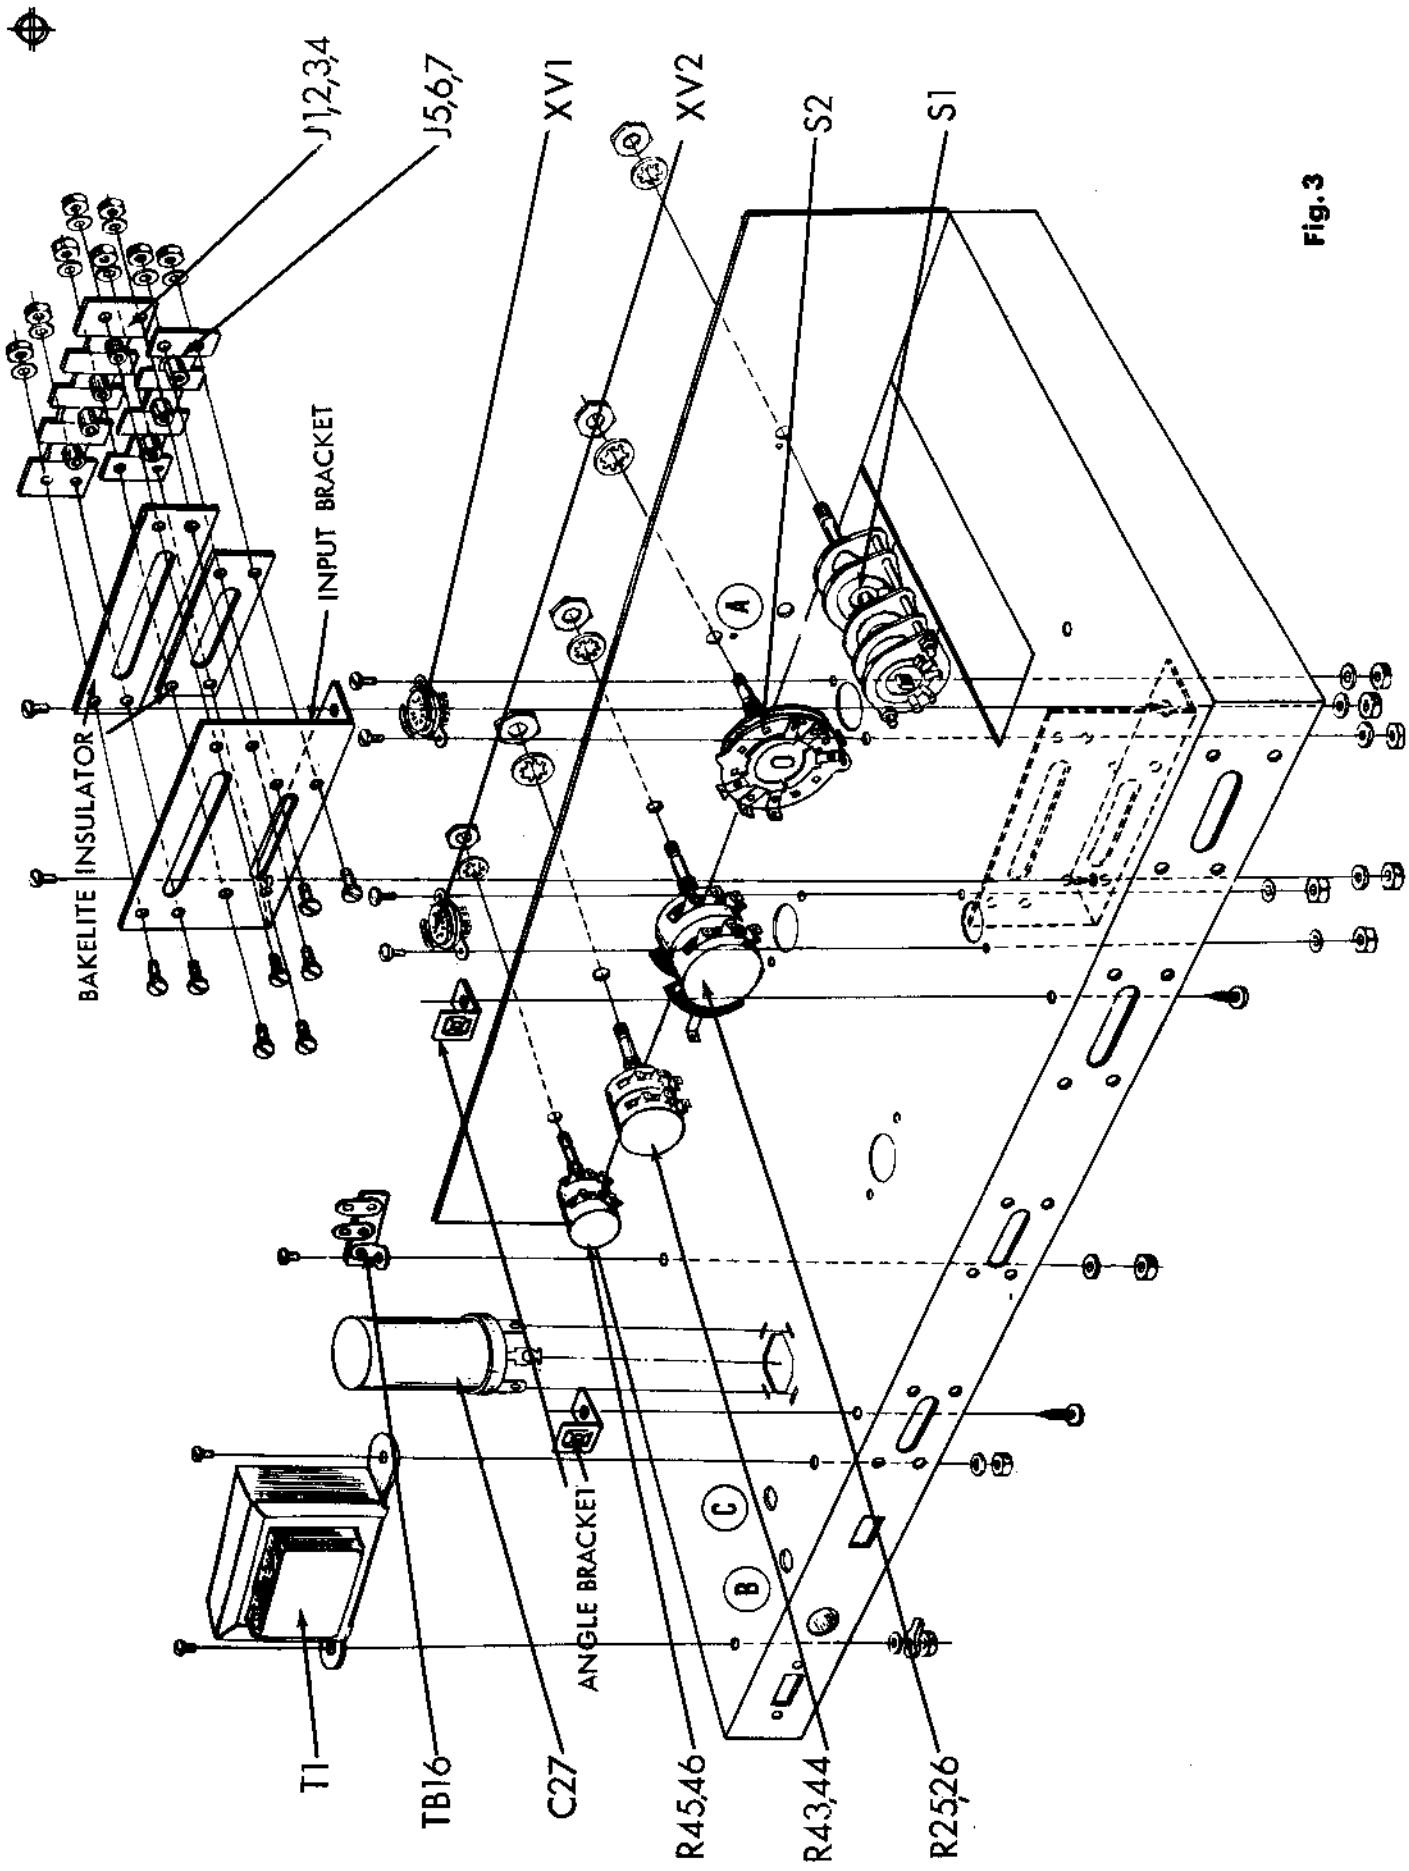
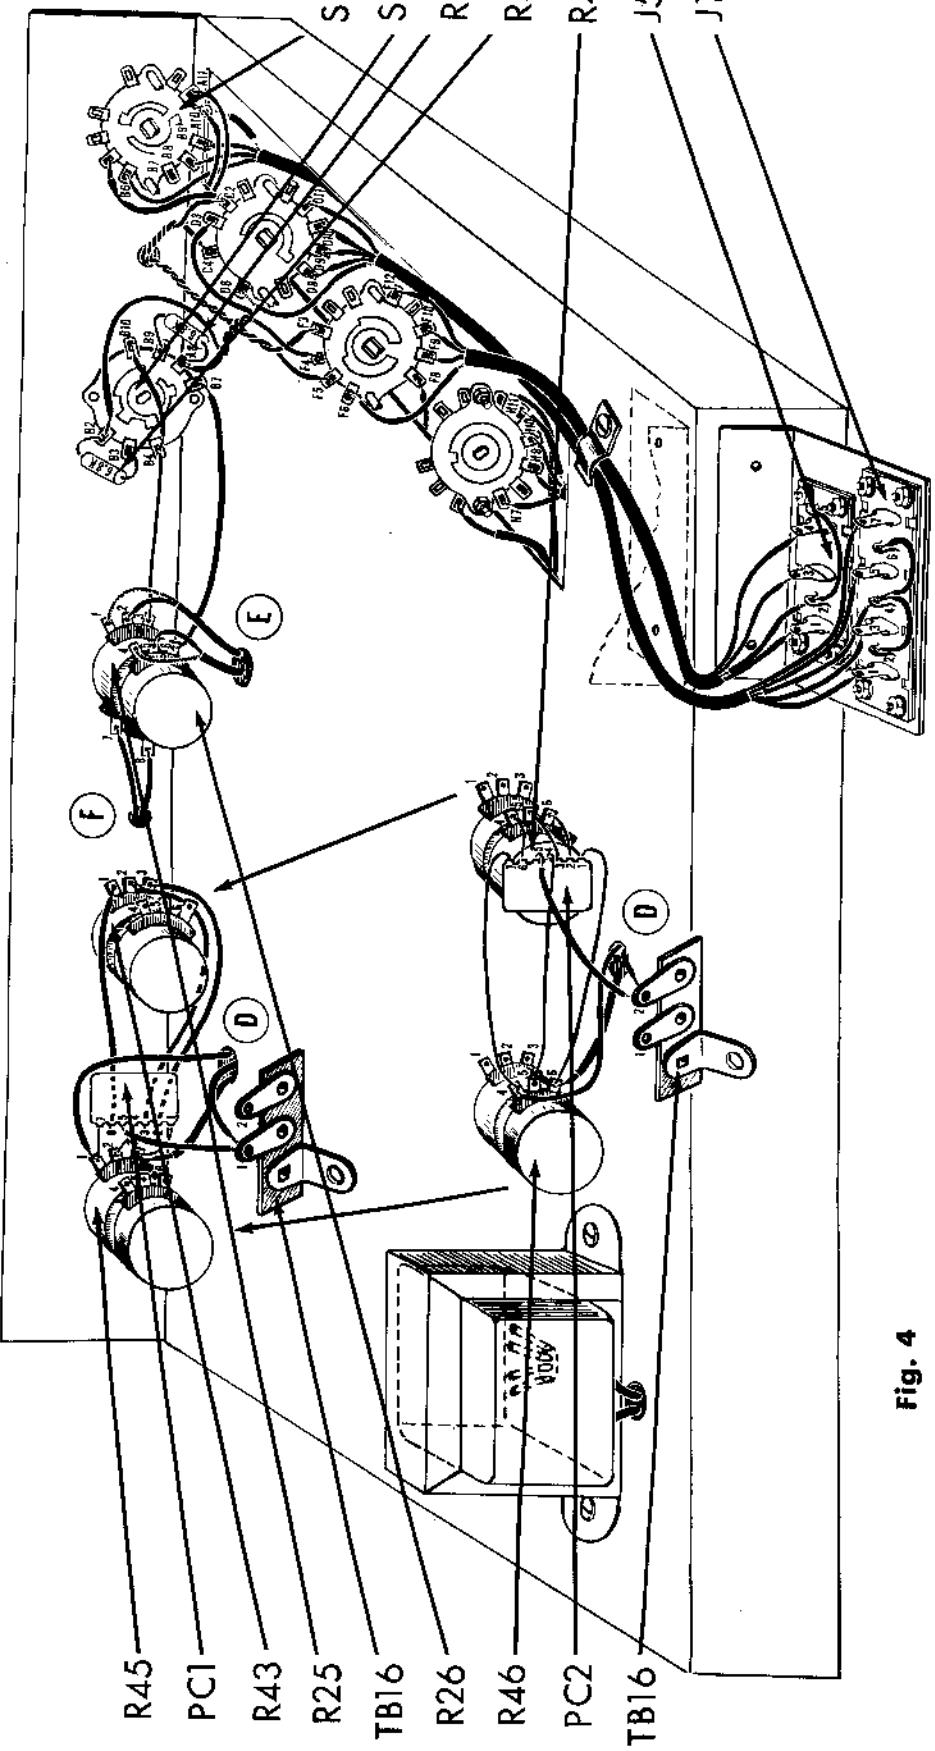

Fig. 3
Fig. 4
1. ( ) Fig. 3. Mount the four wafer input selector switch, S1, as shown (see figure 4). Push all leads except the twisted violet-white pair, the blue-green pair and the yellow-grey pair, to the bottom of the chassis, through the rectangular hole below the switch. Push the twisted white-violet pair and the twisted green-blue pair through hole "A" in the front apron of the chassis. Use a 3/8 lockwasher and a 3/8 hex nut.
2. ( ) Fig. 3. Mount the mode switch, S2, as shown (see figure 4). Use one 3/8 lockwasher and one 3/8 hex nut.
3. ( ) Fig. 3. Mount the concentric level control pot (with center tap lug stock # 18053) R25, 26 as shown. Use one 3/8 lockwasher and one 3/8 hex nut.
4. ( ) Fig. 3. Mount the concentric bass control pot (stock # 18054) R43, 44 as shown. Use one 3/8 lockwasher and one 3/8 hex nut.
5. ( ) Fig. 3. Mount the concentric treble control pot (stock # 18052) R45, 46 as shown. Use one 3/8 lockwasher and one 3/8 hex nut.
6. ( ) Fig. 3. Mount the input bracket as shown. Use two #6-32 screws, two #6 lockwashers and two #6-32 hex nuts.
7. ( ) Fig. 3. Mount the four input jack strips, J1, 2, 3, 4 and the three input jack strips, J5, 6, 7 as shown on the input bracket. Use four #6-32 screws, four #6 lockwashers and two #4-40 hex nuts.
8. ( ) Fig. 3. Mount the electrolytic can capacitor, C27, as shown. Note half moon, square and triangle near the lugs to determine the direction for mounting (figure 6). Insert the mounting tabs into the slots in the chassis and twist the tabs somewhat less than a quarter turn. DO NOT twist the tabs excessively or they will shear off. Solder any one of the tabs to the chassis at its slot.
9. ( ) Fig. 3. Mount the two angle brackets at the rear of the chassis as shown. Use one #8 P.K. - type Z screw for each.
10. ( ) Fig. 3. On the power transformer, T1, cut the two black leads, the two yellow leads and the red-yellow leads to  $3\frac{1}{2}$ ". Cut both red leads to  $3\frac{1}{2}$ ". Push both black leads through hole "B" and all the remaining leads through hole "C". Mount the transformer as shown, using two #6-32 screws and two #6-32 hex nuts. Under one of the hex nuts, use a #6 lockwasher. Under the second hex nut, use a #6 ground lug.
11. ( ) Fig. 3. Mount the two post right terminal strip, TB16/ as shown. Use one #6-32 screw, one #6 lockwasher and one #6-32 hex nut.
12. ( ) Fig. 3. Mount the two nine pin miniature tube sockets with shield support, XV1 and XV2 as shown. See figure 6 for orientation. Use two #4-40 screws, two #4 lockwashers and two #4-40 hex nuts.
✓ 1. Fig. 4. Run the three conductor shielded cable (previously connected to wafer "F" on input selector switch S1) along the chassis as shown under the cable clamp. Connect the red lead to J5, 6, 7-3 (S1), the orange lead to J5, 6, 7-4 (S1), the spaghetti covered shield strands to J5, 6, 7-2 (Q1) and the brown lead to J5, 6, 7-1 (S1). Note that the input bracket is shown bent out, away from the chassis to better show the connections in the drawing. The bracket actually remains mounted vertically on the chassis and is not removed for this or any of the following steps.
✓ 4. Fig. 4. Connect a 1" piece of black wire from J1, 2, 3, 4-4 (Q1) to J1, 2, 3, 4-6 (S1).
✓ 5. Fig. 4. Run the four conductor shielded cable (previously connected to wafer "D" on S1) along the chassis as shown under the cable clamp. Connect the spaghetti covered shield strands to J1, 2, 3, 4-4 (S3), the red lead to J1, 2, 3, 4-3 (S3), the orange lead to J1, 2, 3, 4-5 (S3), the brown lead to J1, 2, 3, 4-1 (S3) and the yellow lead to J1, 2, 3, 4-7 (S3).
✓ 6. Fig. 4. Cut all leads on two 6.8KΩ (blue, grey, red, silver) resistors, R57 and R58, to 1/2". Connect R57 from S2B-2 (Q) to S2B-3 (S1) and R58 from S2B-9 (S1) to S2A-8 (Q).
✓ 7. Fig. 4. Connect a 3/4" piece of grey wire from S2B-10 (S1) to S2B-4 (Q).
- ✓ 8. (X) Fig. 4. Connect a 1 1/2" piece of grey wire from S2B-4 (S1) to R25-3 (S1).
✓ 9. (X) Fig. 4. Connect a 2 1/2" piece of yellow wire from S2B-7 (S1) to R26-6 (S1).
✓ 10. (X) Fig. 4. A twisted yellow and grey pair of leads has previously been connected to S1. Connect the other end of the yellow lead to S2A-8 (S2) and the other end of the grey lead to S2B-2 (S2).
✓ 11. (X) Fig. 4. On one end of a 7" piece of single conductor shielded wire, strip the outer insulation back 1 1/2". Twist the shield strands together. Strip the insulation back 1/4" on the inner conductor and connect to R25-2 (S1). Connect the twisted shield strands to R25-1 (S1). On the other end of the same piece of shielded wire, strip the outer insulation back 3/4". Twist the shield strands together and cover with a 1/2" piece of thick spaghetti. Strip the insulation back 1/4" on the inner conductor. Push this end through hole "E" to bottom of the chassis.
✓ 12. (X) Fig. 4. On one end of a 4" piece of single conductor shielded wire, strip the outer insulation back 1 1/2". Twist the shield strands together. Strip the insulation back 1/4" on the inner conductor and connect to R26-5 (S2). Connect the twisted shield strands to R26-4 (S2). On the other end of the same piece of shielded wire, strip the outer insulation back 3/4". Twist the shield strands together and cover with a 1/2" piece of thick spaghetti. Strip the insulation back 1/4" on the inner conductor. Push this end through hole "E" to the bottom of the chassis.
✓ 13. (X) Fig. 4. Strip the outer insulation back 1/2" on one end of an 8"
- piece of single conductor shielded cable. Twist the shield strands together and cut off. Strip the inner insulation back 1/4". Connect this end of R45-3 (Q). On the other end of the same piece of cable, strip the outer insulation back 1/2". Twist the shield strands together. Strip the inner insulation back 1/4". Push this end of the cable through hole "D" to the bottom of the chassis.
✓ 14. (X) Fig. 4. Connect one end of a 3" piece of purple wire to R45-1 (Q).
✓ 15. (X) Fig. 4. Connect one end of a 2 1/2" piece of blue wire to TB16-1 (Q). Push the other end through hole "D".
✓ 16. (X) Fig. 4. On printed circuit plate PC1, cut leads #1, #4 and #7 to 1/2". Cut leads #2, #3 and #6 to 2 1/2". Cover each of leads #2, #3 and #6 with a 2 1/4" piece of spaghetti. Cover lead #5 with a 1 1/4" piece of spaghetti. Board mounted with numbers facing away from you. Connect lead #6 to R43-1 (S1), lead #2 to R43-3 (S1), lead #3 to R43-2 (S1), lead #1 to R45-3 (S2), lead #4 to R45-2 (S2), lead #7 to R45-1 (S2) and lead #5 to TB16-1 (S2).
✓ 17. (X) Fig. 4. Strip the outer insulation back 1/2" on one end of a 5" piece of single conductor shielded cable. Twist the shield strands together and cut off. Strip the inner insulation back 1/4". Connect this end to R46-6 (Q). On the other end of the same piece of cable, strip the outer insulation back 1/2". Twist the shield strands together. Strip the inner insulation back 1/4". Push this end of the cable through hole "D" to the bottom of the chassis.
✓ 18. (X) Fig. 4. Connect one end of a 3" piece of green wire to R46-4 (Q). Push the other end through hole "D".
✓ 19. (X) Fig. 4. Connect one end of a 3" piece of white wire to TB16-2 (Q). Push the other end through hole "D".